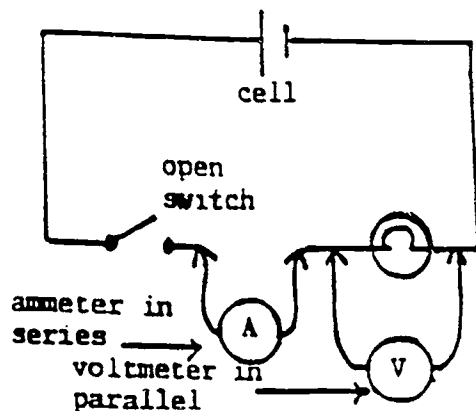

Fig. 12
2. Follow the steps outlined below for connecting the ammeter and voltmeter. Your circuit should be as shown in Fig. 12.